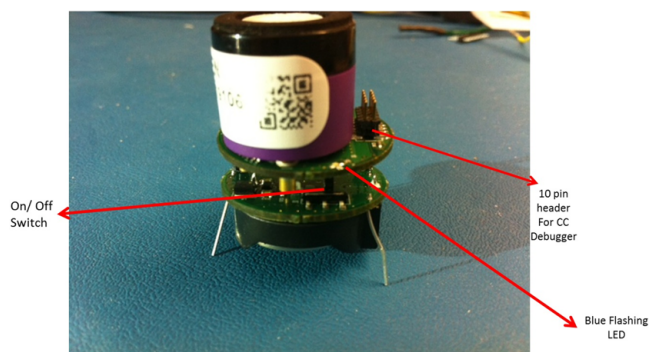

Figure 11. System Running With LED Flashing
3. Turn the On/Off switch to the right (with respect to the orientation shown in Figure 11).
6. If needed, connect the CC-DEBUGGER (not included in the kit) to the 10-pin header as shown in Figure 11. If changes to the default firmware are needed, see Section 7.2.